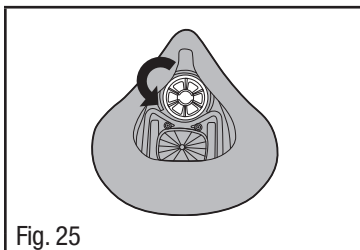

Fig. 25
2. From the inside of the facepiece, turn the speaking diaphragm counter clockwise a quarter turn (Fig. 25).